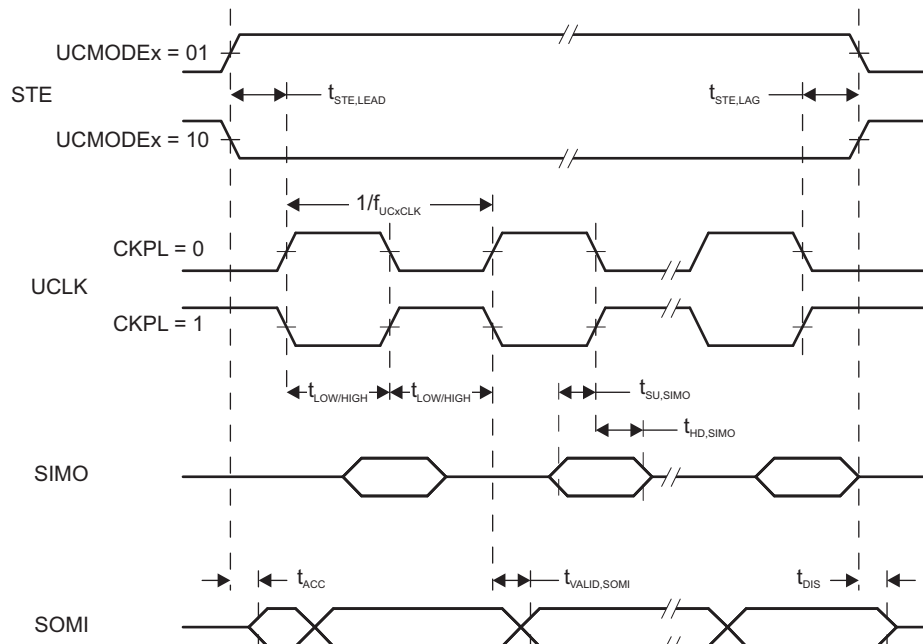

Figure 5-8. SPI Slave Mode, CKPH = 0
- (2) Specifies the time to drive the next valid data to the SOMI output after the output changing UCLK clock edge. See the timing diagrams in Figure 5-8 and Figure 5-9.
- (3) Specifies how long data on the SOMI output is valid after the output changing UCLK clock edge. See the timing diagrams in Figure 5-8 and Figure 5-9.